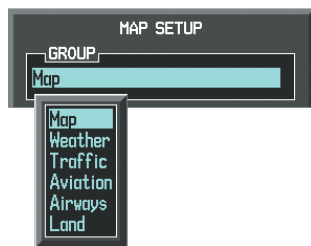

Figure 6-71 Navigation Map Page Setup Menu
- 5) Turn the large **FMS** Knob or press the **ENT** Key to scroll through product selections (Figure 6-71).